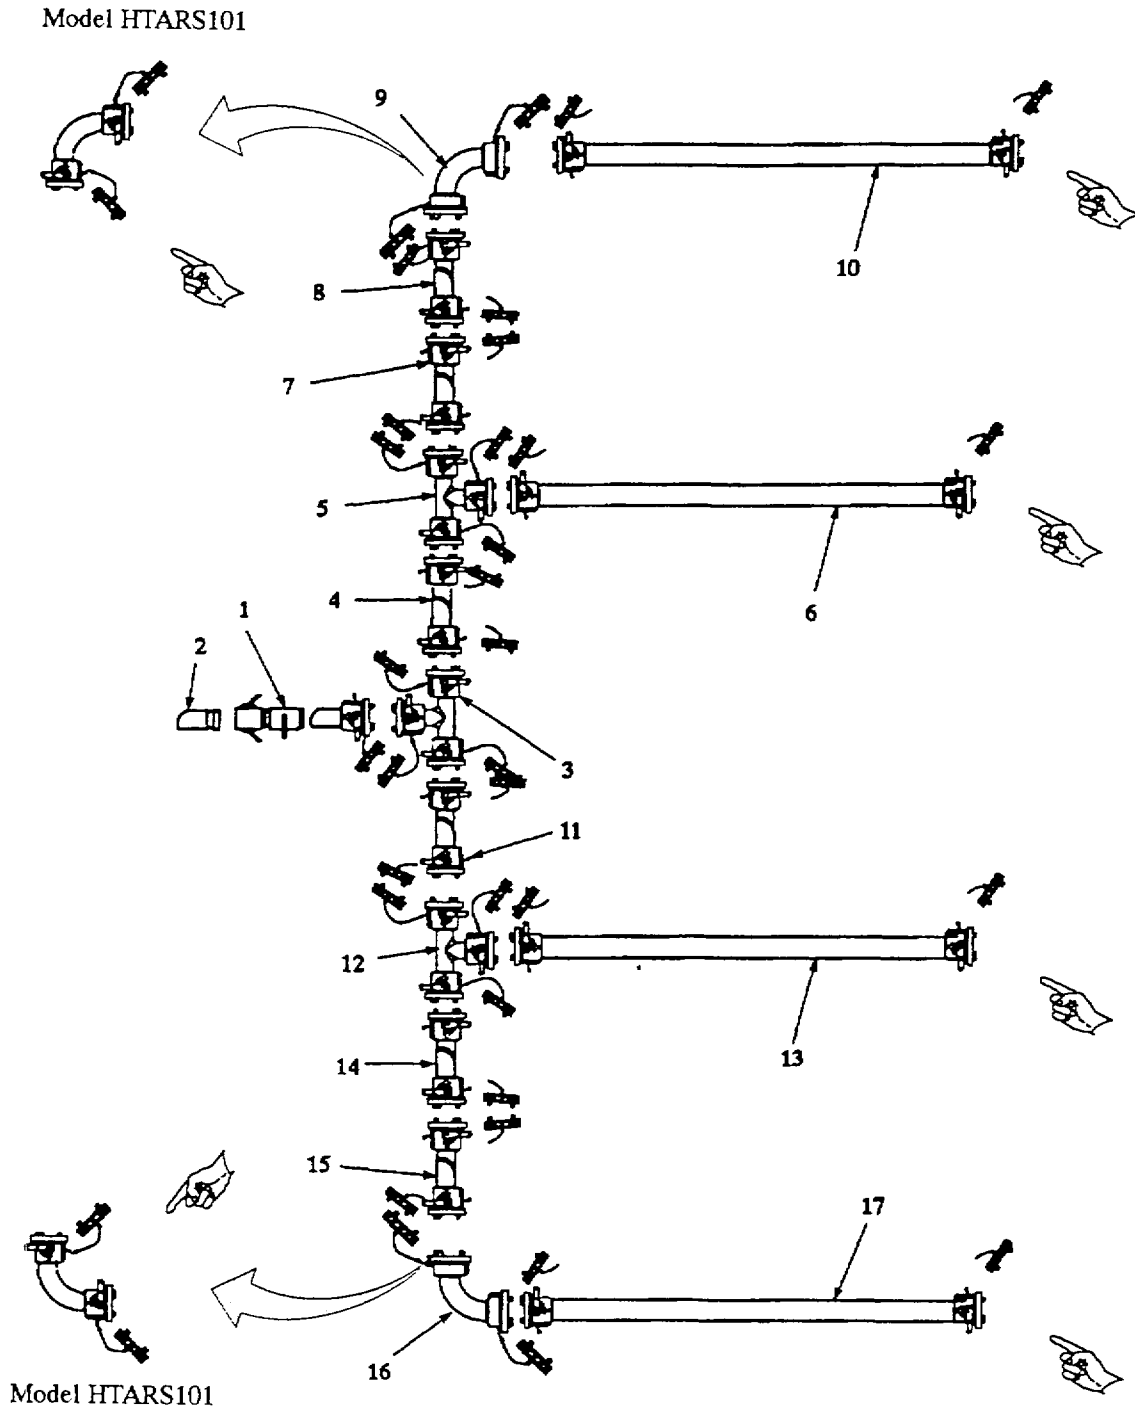

Figure 2-21. Fuel Hose Disassembly.
- e. Fuel Hose Disassembly. Refer to figure 2-21. The fuel hose layout being disassembled may have been modified to meet mission requirements. The following paragraphs provide instructions for disconnecting a typical fuel hose layout.